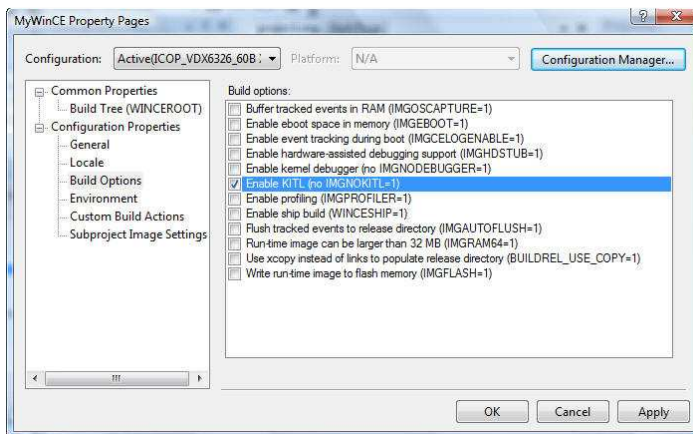

Fig. 62 - MyWinCE Property Pages - Build options
- From the MyWinCE Property Pages screen's left pane, expand the **Configuration Properties** node and click on the **Build Options** node to bring up the Build options pane on right, as shown in Figure 62.